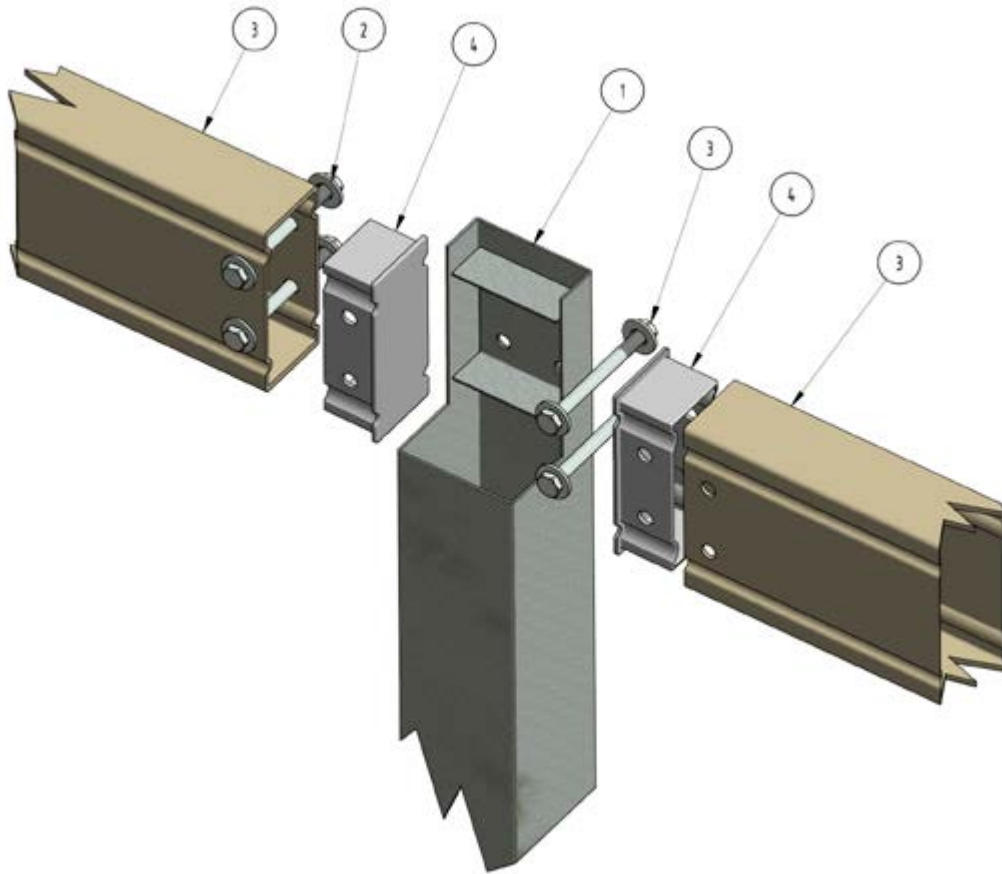

Figure A46
**Aluminium Post End Cap Connection (See Figure A46)**